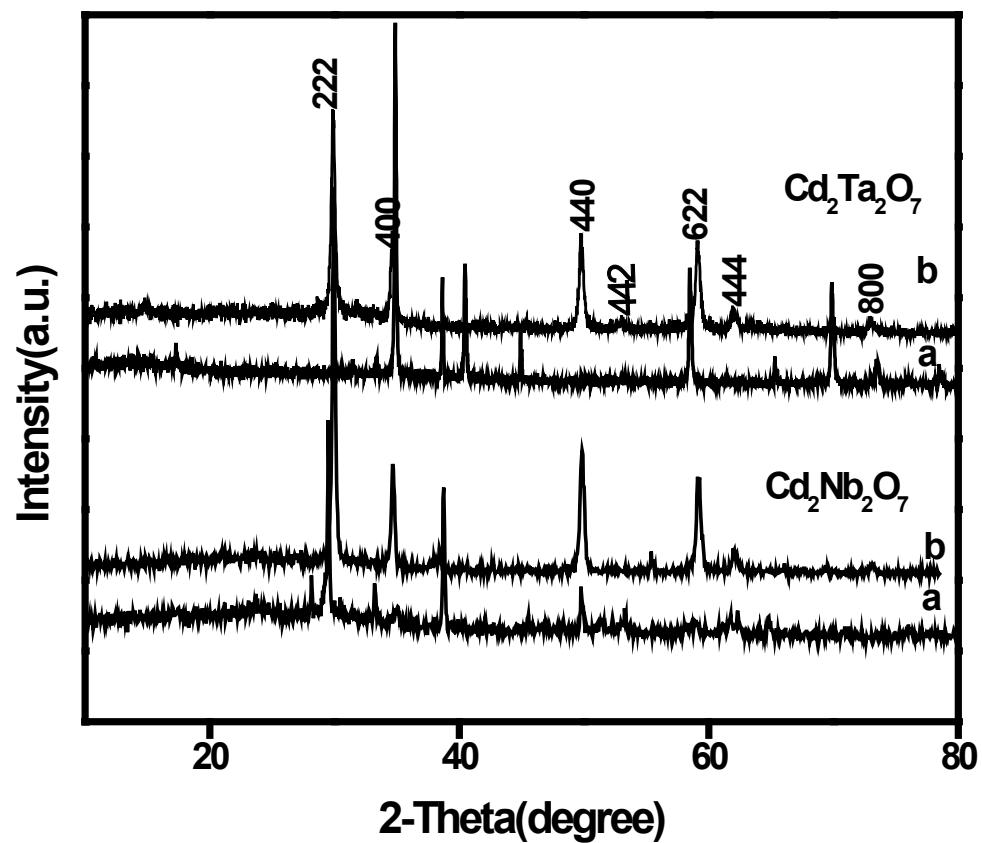

Figure S6
**Figure S6:** XRD patterns of cadmium tantalate and cadmium niobate synthesized by hydrothermal method at 180°C and calcined at 600°C for 8h at different hydrothermal reaction time (a) 24h and (b) 48h (Concentration of NaOH 0.5M)